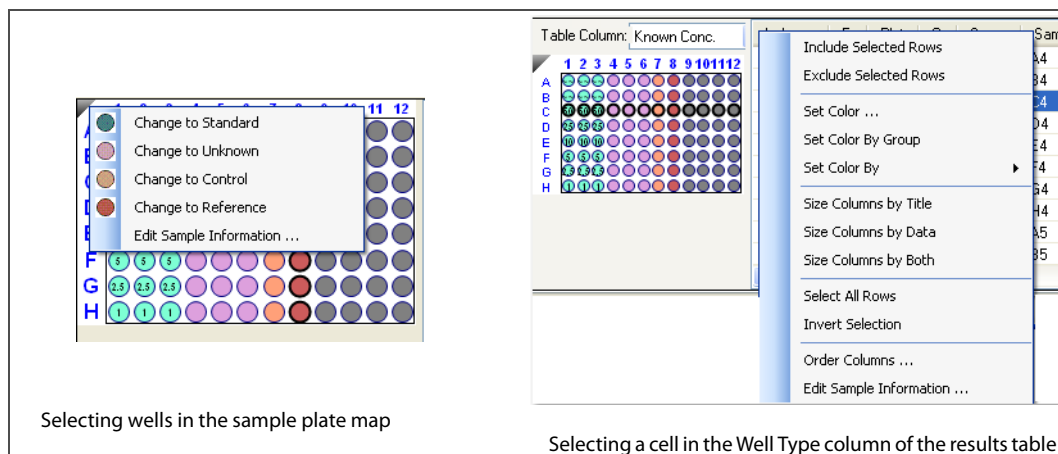

Figure 4-4: Changing Sample Designations
- In the *sample plate map*, select the well(s), right-click, and select one of the following options (see left image in Figure 4-4):
- In the *results table*, right-click a table cell and make a selection from the drop-down menu (see right image in Figure 4-4).